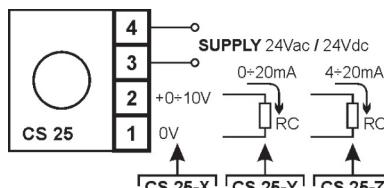

Fig.3
**COLLEGAMENTI:** Fig. 3.
### ELECTRIC WIRINGS: Fig. 3.